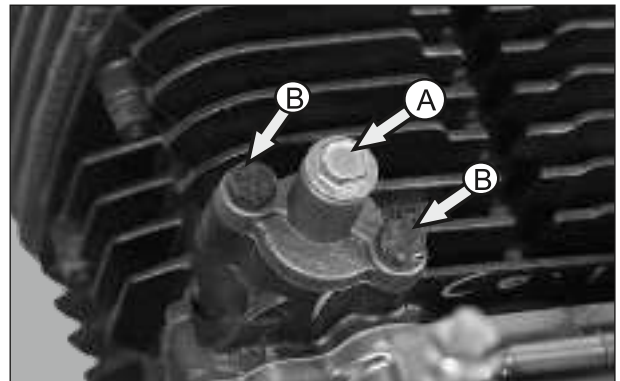

Fig. 3.47
- Remove the bolt adjuster assembly tensioner (A) and take out the bolt along with the spring and 'O' ring. (Fig. 3.47)
- Loosen and remove 2 nos. hexagonal bolt M6x16 from the adjuster assembly tensioner mounting and take out the adjuster along with gasket. (B) (Fig. 3.47)